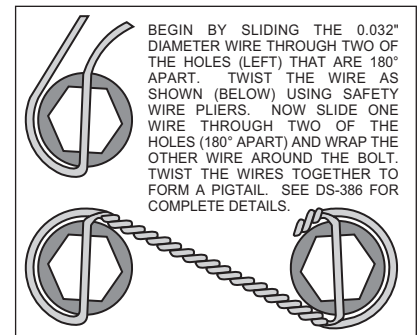

Figure 3. Safety Wire Diagram
- Attach rotor adapter (8) to rotor (9) using eight bolts (10). Torque bolts (10) to 180 in-lb. Safety wire bolts (10) using standard 0.032 inch diameter stainless steel safety wire as shown in Figure 3. Please refer to Wilwood's data sheet DS-386 (available at www.wilwood.org/ds386.pdf) for complete safety wire installation instructions. **NOTE:** The flat side of the rotor (8) lugs face toward the rotor adapter (9) with the dished side of the rotor adapter (8) facing away from the rotor (9).
- Mount the adapter/rotor assembly (8 and 9) to the hub (5) using five lock washers (11) and five bolts (12). Torque bolts (12) to 22 ft-lb. Safety wire bolts (12).
- Pack the small outer bearing cone (13) with high temperature disc brake bearing grease and install into front of hub (5). Slide the hub/rotor assembly (5 and 9) with outer bearing cone (13) onto the spindle. Secure using stock washer, adjusting nut and nut locking device.
- Install the dust cap (16) onto the hub (5). Friction created by the o-ring (15) on the dust cap (16) keeps it from unscrewing. The O.D. of the existing spindle washer may be larger than the I.D. of the dust cap (16) not allowing it to seat against the hub face. Therefore, use the spindle washer (14) supplied with the kit instead of the stock washer.
- **NOTE:** Please reference the caution statement at the beginning of the assembly instructions. With the bleed screws pointing up, mount the caliper (17) onto the caliper mounting bracket (1) using lock washers (18), bolts (19). Finger tighten. View the rotor (9) through the top opening of the caliper (17). The rotor (9) should be aligned in the center of the caliper (17). If not, adjust the caliper (17) by using 0.032 inch thick shims (20) placed between the caliper mounting bracket (1) and the caliper (17). Add as many shim washers (20) as necessary to achieve the correct alignment. Always use the same amount of shims on both the top and bottom caliper mounting bolts (19). Finger tighten and recheck alignment, adjust as necessary. Apply red *Loctite*® 271 to bolt threads (19) and torque to 30 ft-lb. Safety wire caliper bolts (19).
- Install the disc brake pads (21) into the caliper (17). Secure the disc brake pads to the caliper utilizing cotter pin (22).